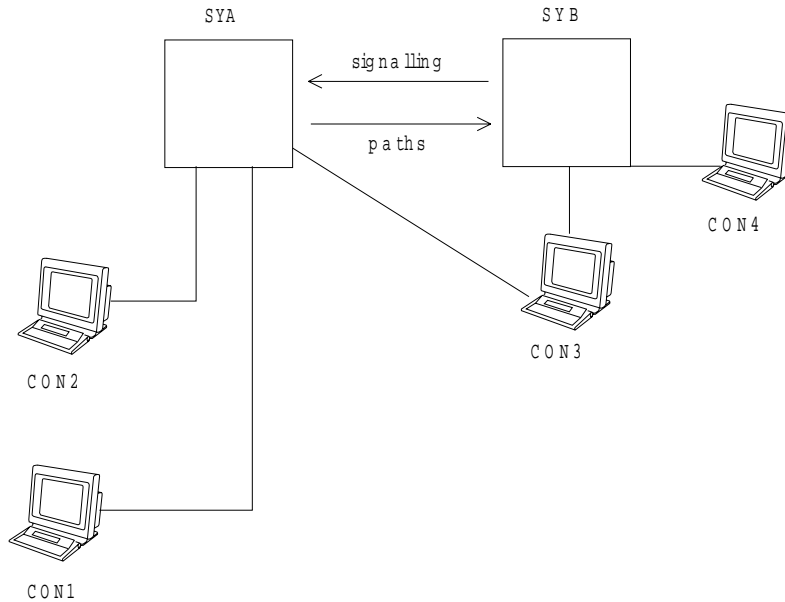

Figure 4. Console Configuration in a Sysplex with Two Systems and Four MCS Consoles
In Figure 4, systems SYA and SYB share the same CONSOLxx member. SYA has three physically attached consoles (CON1, CON2, and CON3); SYB has two physically attached consoles (CON3 and CON4).
- With names specified for all consoles in the configuration, MVS uses only four IDs and saves on the maximum number of console IDs (99) that MVS can assign in a sysplex. If you did not name the consoles in this example, MVS would use eight separate IDs (one ID for each console statement in the sysplex).
- A console can be active on only one system at a time. In Figure 4 on page 24, CON3 is physically attached to both SYA and SYB. Without specifying SYSTEM(SYB) for CON3, CON3 would become active on either SYA or SYB, whichever system joins the sysplex first. Specifying SYSTEM(SYB) ensures that CON3 is activated only on SYB.
If SYA in Figure 4 on page 24 fails, the sysplex is unable to use any MCS consoles because SYB does not have any CONSOLE statements defined in its CONSOLxx member.